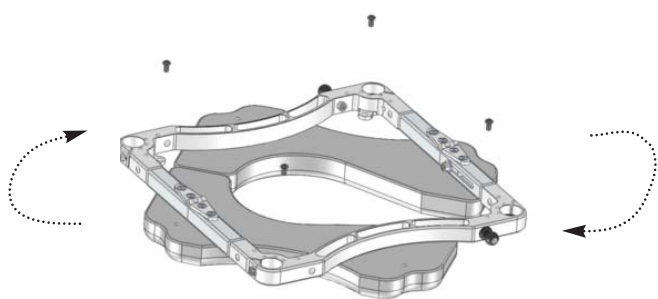

Figure 10
**A Seat Cushion Orientation:** The standard seat cushion orientation is with the commode opening in the front of the multiCHAIR. If desired, the commode opening can also be orientated left/right/rear. This can be accomplished by unscrewing the four button head cap screws that attach the cushion to the frame, orientating the commode opening to the desired location and then re-attaching the cushion to the frame with the four screws using the 5/32" Allen wrench (Refer to Figure 10).